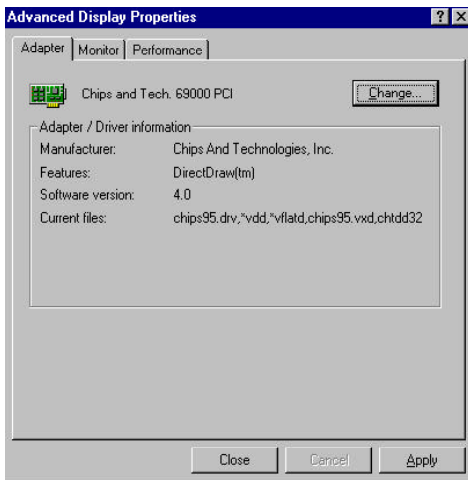

figure 6
3. Once the installation is complete, the *Advanced display Properties* window will reappear. Show as figure 6: